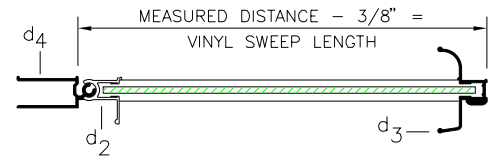
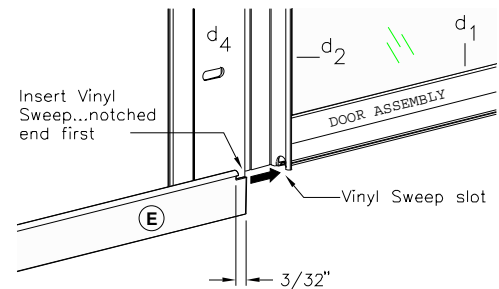

fig.3
fig.4
6. Trim Vinyl Sweep (H) to length as shown in figure 3 and insert it into the Door Assembly's bottom Vinyl Sweep slot as shown in figure 4.